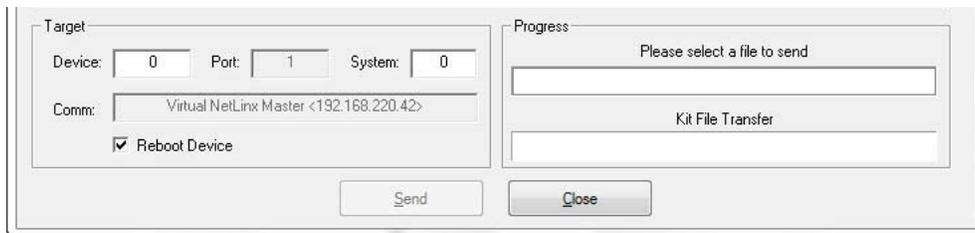

FIG. 33 Send to NetLinx Device dialog
3. Select **Tools > Firmware Transfers > Send to NetLinx Device** from the main menu to open the *Send to NetLinx Device* dialog (FIG. 33).